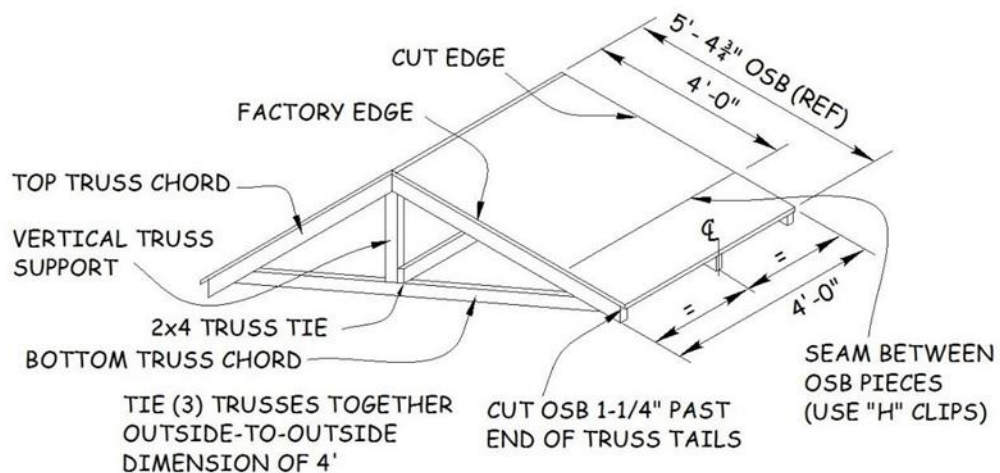

Figure 22-9. Shed Truss Component Assembly.
3. Cut two pieces of 2x4 exactly 4' long to create "truss ties". Set three trusses on their tails. Set one of the 4' truss ties on edge on top of the bottom truss chord and tight to the vertical truss support (see Figure 22-9). Position the truss tie flush to the outside edges of the two end trusses. Secure the truss tie to the two vertical truss supports on the end truss braces with two 16d nails for each truss. Center the middle truss 24" from the outside edges of the end trusses and nail the truss tie to the vertical truss support with two 16d nails.
NOTE: Aligning the cut edge with the sheathed end truss chord (See Figure 22-9) ensures the proper orientation of the OSB for roof strength.